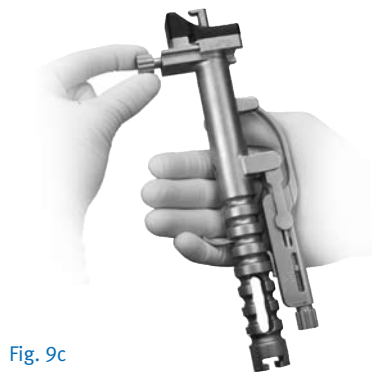

Fig. 9c
If needed, turn adjustment knob (C) to achieve desired rotation of the femoral component (Fig. 9c).